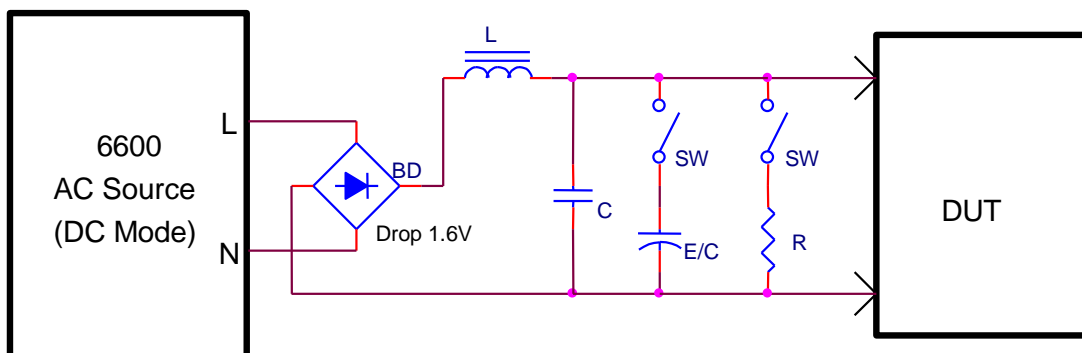

Figure 3
2.If you need the lower ripple and noise circuit, you can adopt the connection of Fig.3.